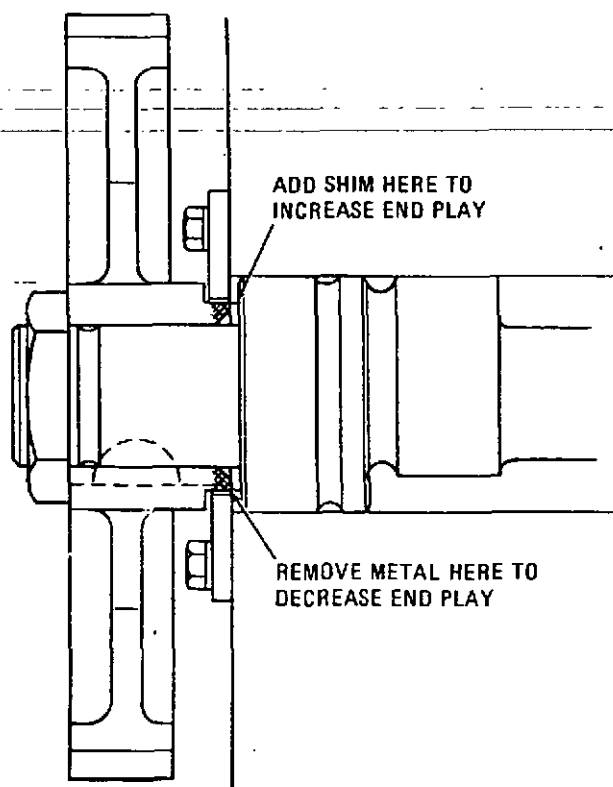

Figure 5-32. Adjusting Camshaft End Play
4. Secure the thrust plate to the cylinder block with two bolt and washer assemblies (2, figure 5-31). Check the camshaft end play. Normal end play is 0.005 to 0.008 inch and shall not exceed 0.012 inch. To decrease end play, use a draw file to remove a small amount of metal from the camshaft gear hub on which the thrust plate rides. See figure 5-32. To increase end play, add a shim between the camshaft gear hub and the camshaft bearing, or, using a piece of very fine emery cloth on a surface plate, polish the thrust plate to the desired thickness. Check the backlash of the camshaft gear to the crankshaft gear. The backlash must be 0.0015 to 0.0025 inch.